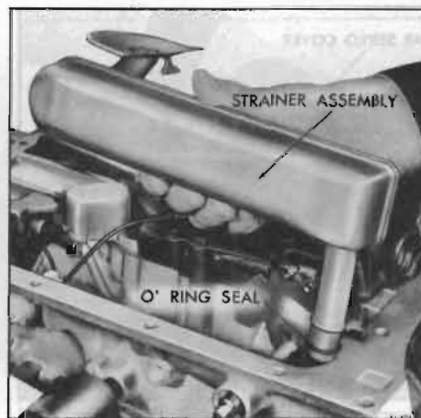

Figure 74-786
1. Install case to intake pipe "O" ring seal on filler assembly. See Figure 74-786.